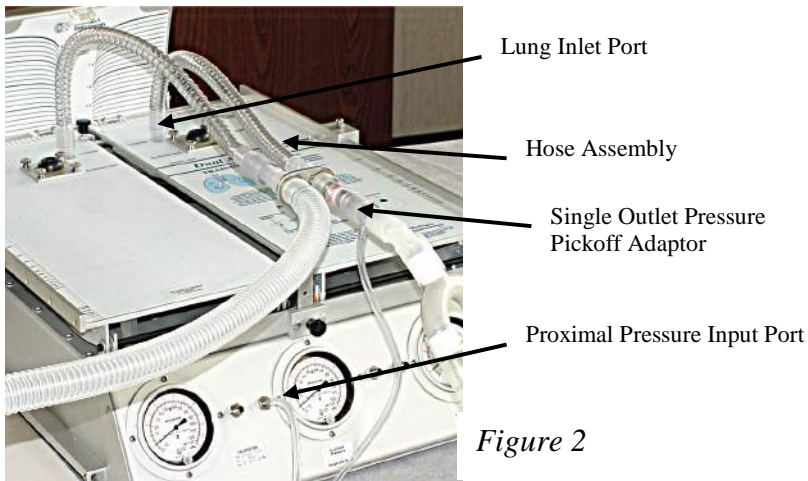

Figure 2
3. Connect one end of the *Lung Hose Assembly* onto the right side of the Dual Rest Assembly and the other end into the *Lung Inlet Port* in the top plate of the **right** lung. (Note: the *Breath Simulation Module* must be connected to the left lung.) (Figure 2)
4. Attach a *Single-outlet Pressure Pickoff Adaptor* to the proximal end of the Resistor. (Figure 2)
5. Use the *1/8" Hose* to connect the *Pressure Pickoff Adaptor* to the *Proximal Pressure Input Port* located to the left of the center gauge. (Figure 2)